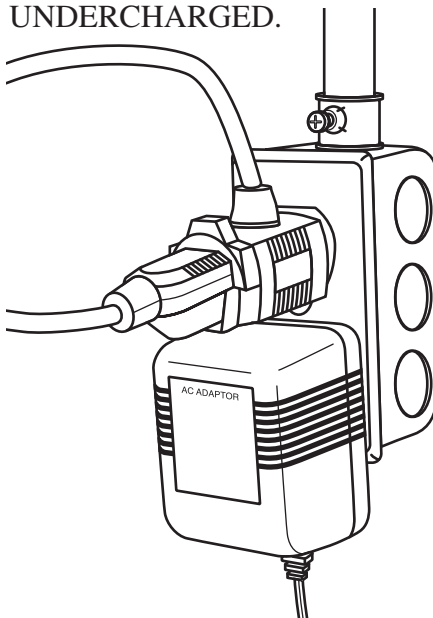

Figure 3 AC-115 V Outlet and Hydromatic piggyback switch plug
7. Insert the plug of the battery charger into the CHARGER socket of the control panel and plug the charger into an AC-115 volt power outlet (Figure 3 on page five).